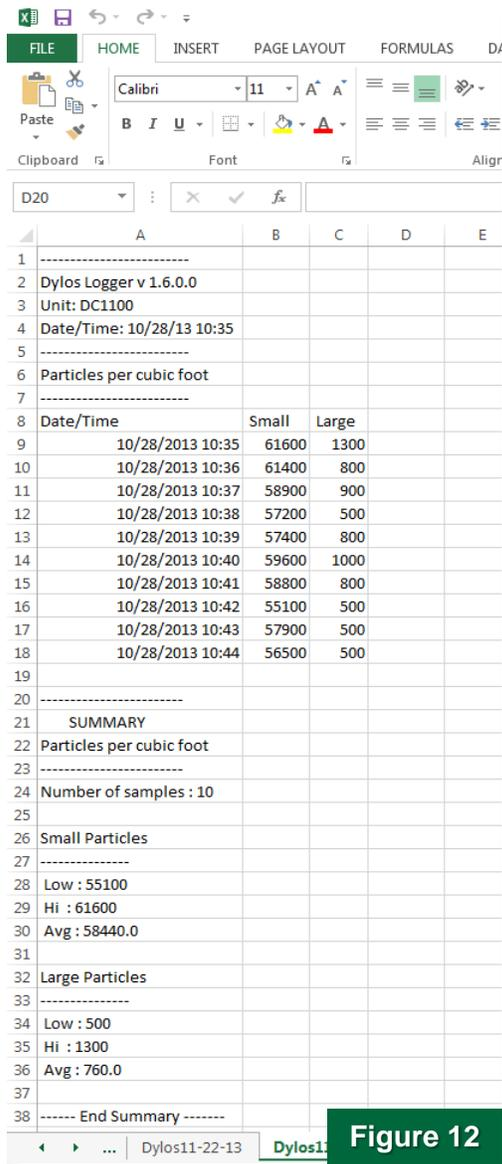

Figure 12
- Press 'OK' to display the data in columns in the Microsoft Excel spreadsheet, as shown in Figure 12.